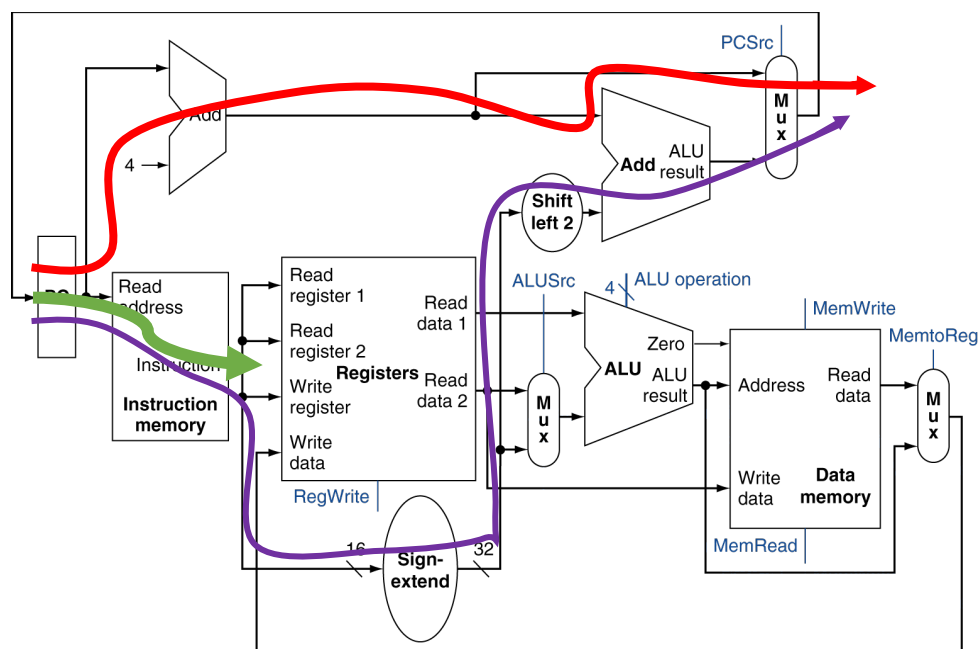

Figure 2. MIPS datapath without control unit.
These paths are shown in Figure 2. The minimum is the delay of critical path which is 290ps in this case.
b. The purple path in Figure 2 shows the path to perform the unconditional branch instruction. The difference with conditional branch is that we don't need to compare two operands.